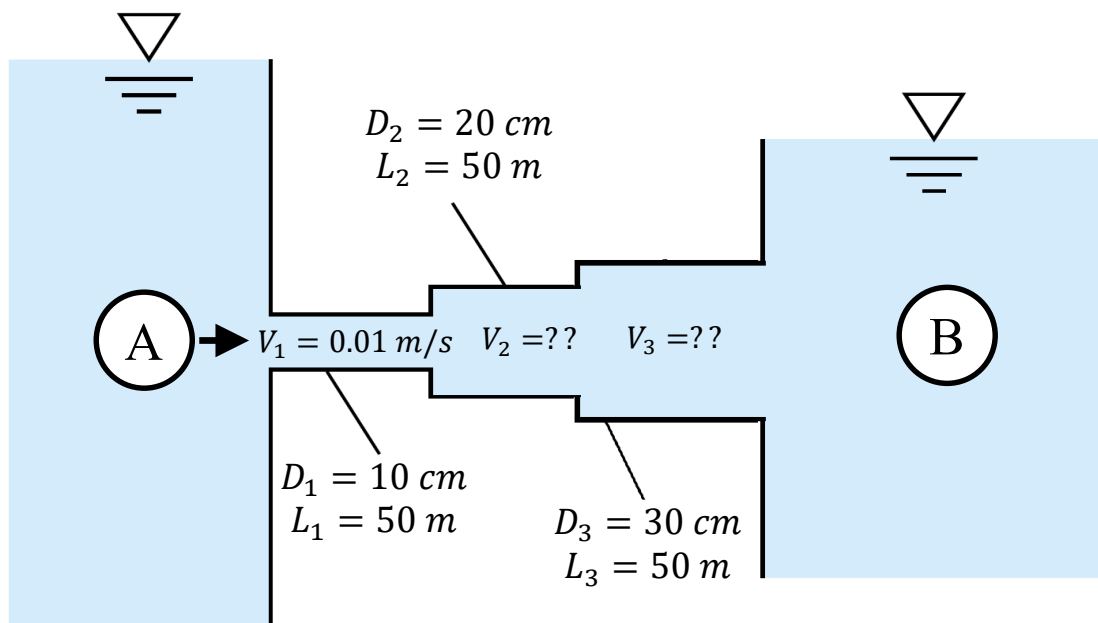

Figure 4
4. Two reservoirs as depicted in Figure 4 are connected by pipes with three (3) different sizes.